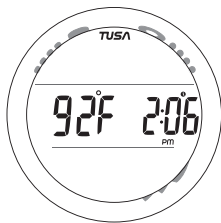

Fig. 105 - FREE SURF ALT 2
**Free Surface ALT 2**, information includes (Fig. 105) -